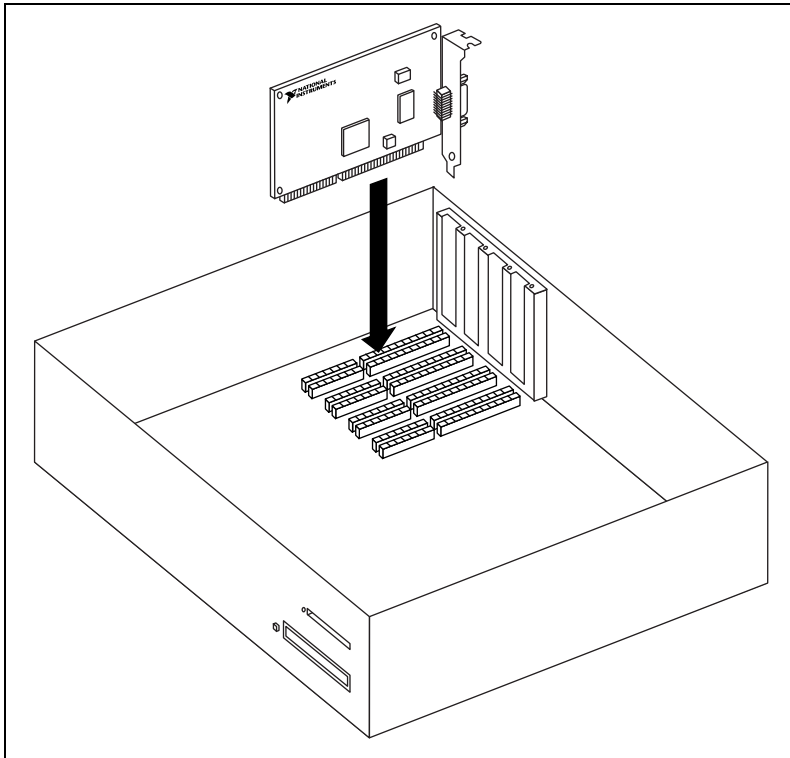

Figure 13. Installing the AT-GPIB/TNT (PnP) or AT-GPIB/TNT+
5. Insert the GPIB board into the slot with the GPIB connector sticking out of the opening on the back panel, as shown in Figure 13. It might be a tight fit, but do not force the board into place.